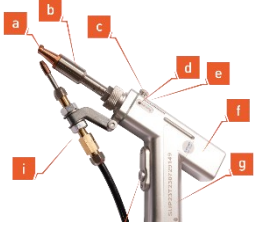

Figure 12 Laser torch
The Nuriş laser welding machine's torch is versatile and capable of performing laser welding, laser cutting, and laser cleaning tasks (Figure 12 ). The torch is connected to the laser welding system through an intermediary connection package. The wire drive system connection located under the torch allows it to be used for welding operations that require filler wire. The components of the laser torch are described in Figure 12.
- The QBH connector and collimator lens set (Figure 12-g) are cooled with coolant.
- Has an easy-to-remove protection glass and holder (Figure 12-c).
- Equipped with a scale tube (Figure 12-b) to adjust the focal depth over the workpiece.
- Includes error and operational status LED indicators on the torch (Figure 12-d).